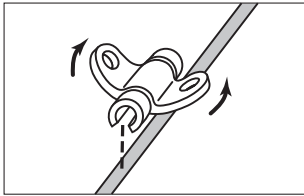

Figure 1
- After guidewire has been removed and necessary lines have been connected or locked, spread wings of rubber clamp and position on catheter making sure catheter is not moist, as required, to maintain proper tip location (refer to Figure 1).